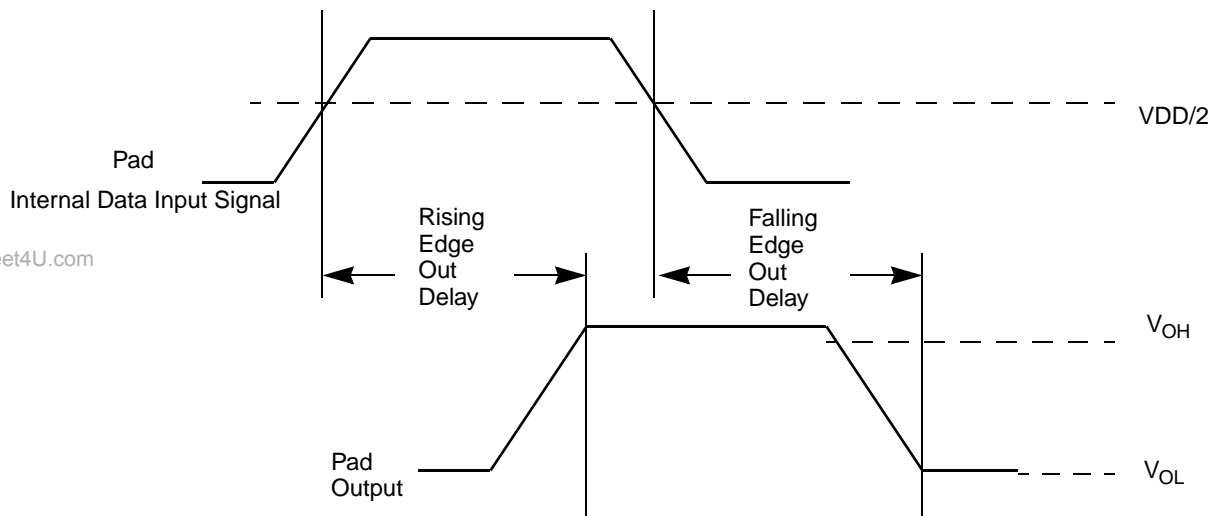

Figure 6. Pad Output Delay
- 8 Output delay is shown in Figure 6. Add a maximum of one system clock to the output delay for delay with respect to system clock.